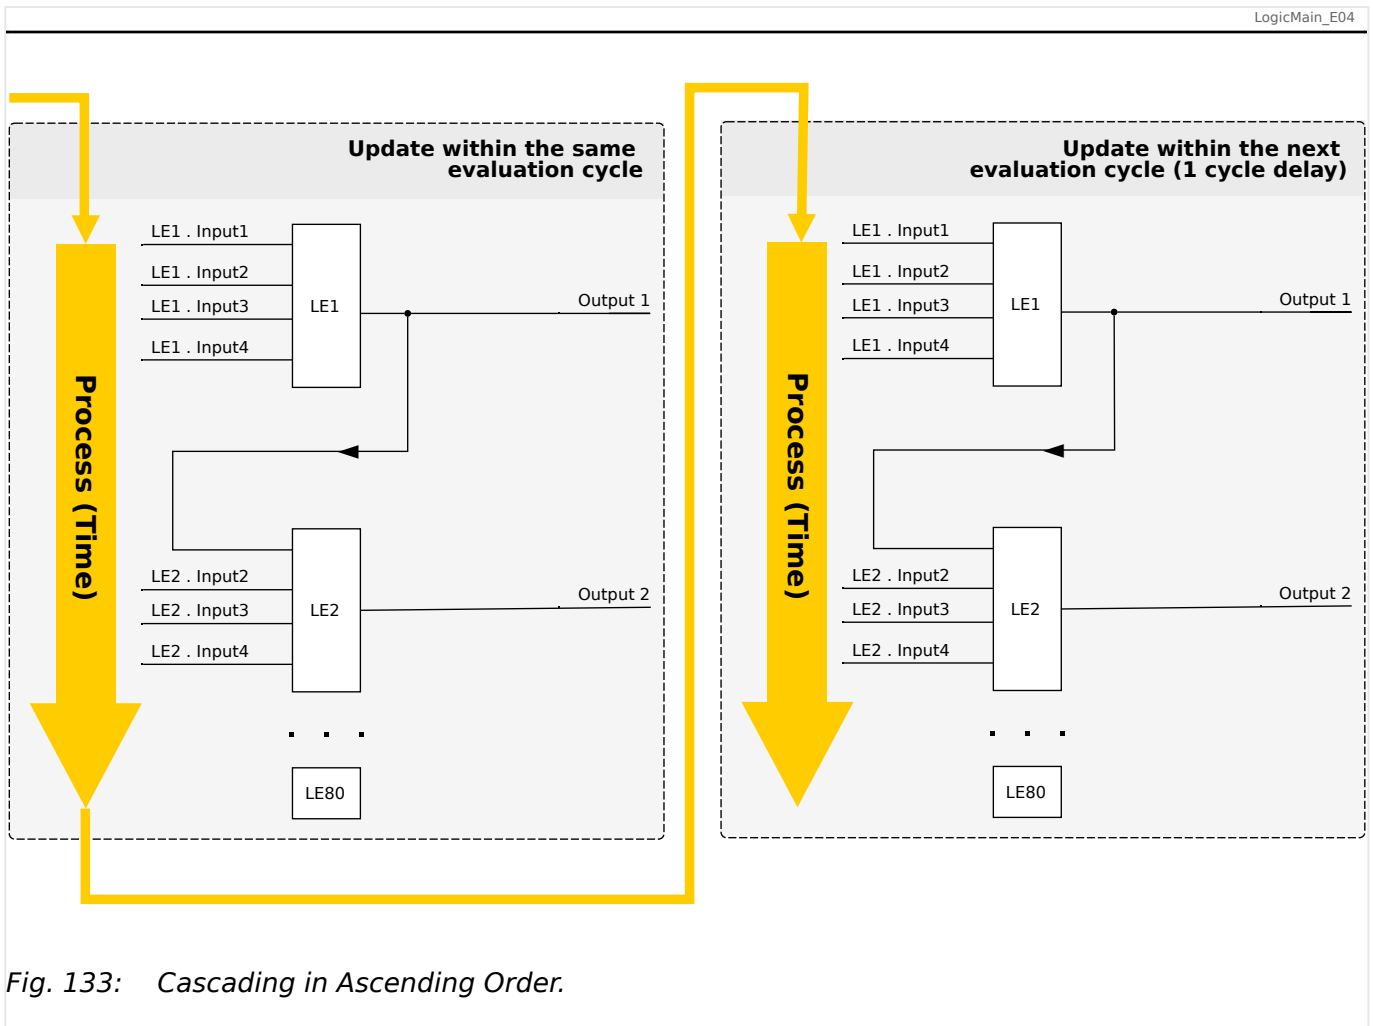
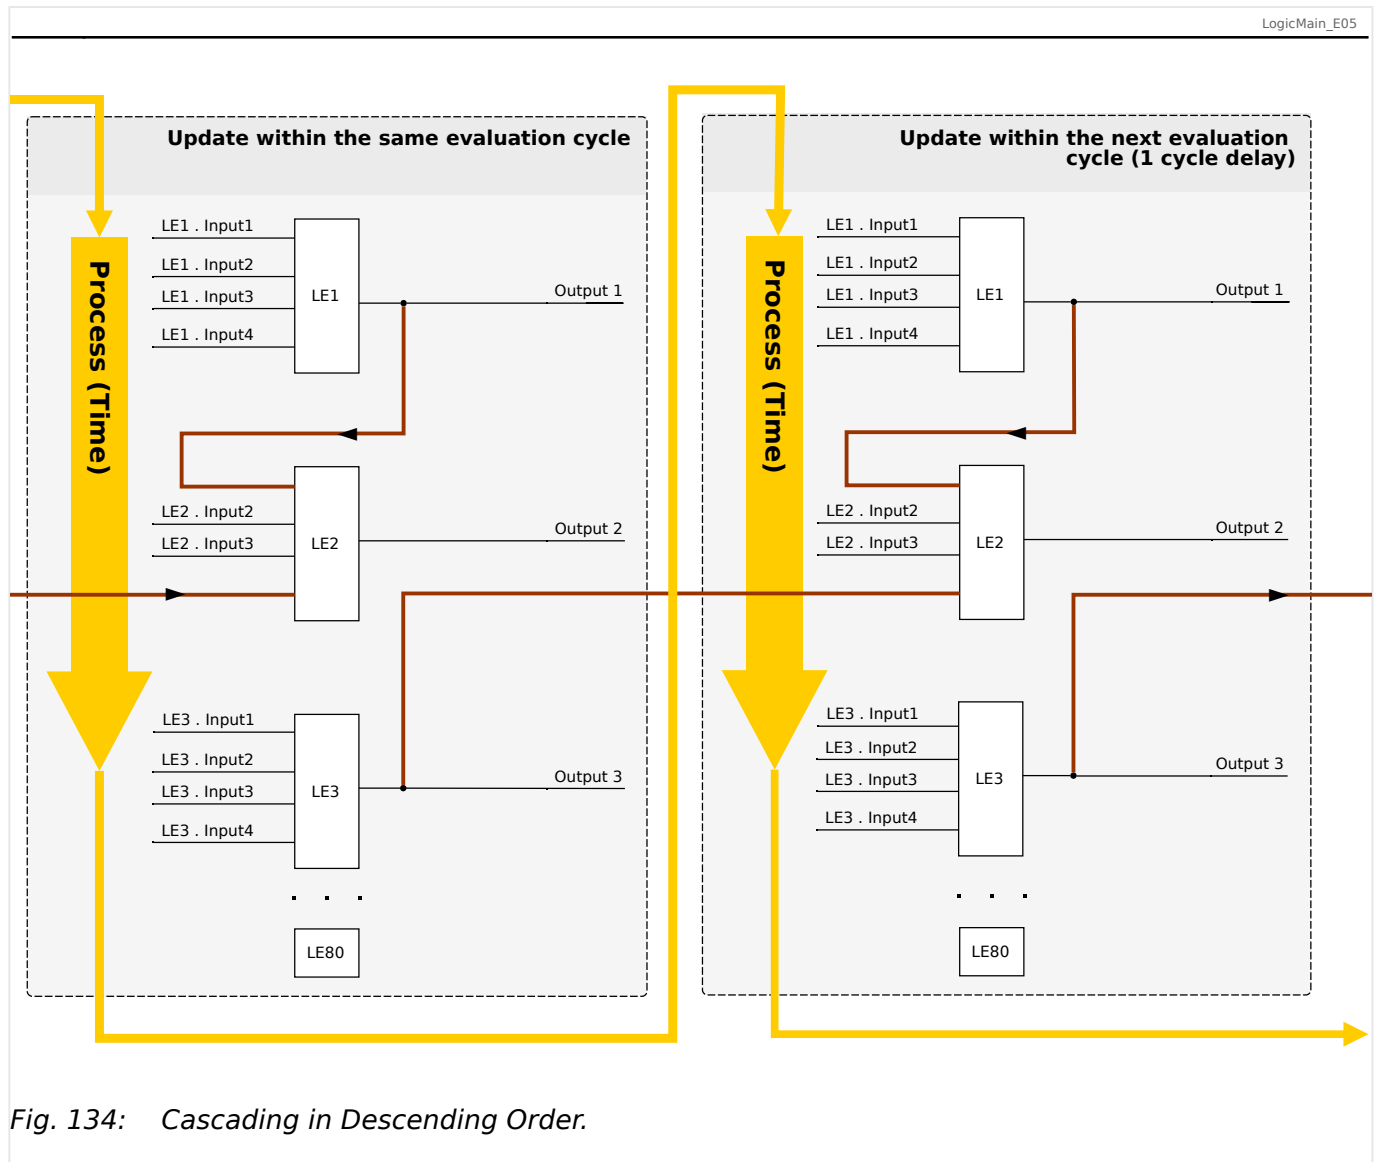

Fig. 133: Cascading in Ascending Order.
Fig. 134: Cascading in Descending Order.
- **Ascending** sequence means that some output is fed into the input of a logic equation with **higher** number. For instance, diagram  Fig. 133 below shows an example where the result of Logic Equation LE1 is used as an input of Logic Equation LE2.
- **Descending** sequence means that some output is fed into the input of a logic equation with **lower** number. For instance, diagram  Fig. 134 shows an example where the result of Logic Equation LE3 is used as an input of Logic Equation LE2.
Both ascending and descending sequences may be used and combined one with the other, with no immediate difference. However, due to the evaluation of all equations in ascending order the actual run-time values that are fed in at the input of an equation will have a different “age”, as is shown in  Fig. 133 and  Fig. 134 below.
In the example shown in  Fig. 134 above, "Logic Equation 2" uses the output states of two other equations, "Logic Equation 1" and "Logic Equation 3". The result of "Logic Equation 1" is used in ascending order and has therefore been evaluated within the same process cycle. The result of "Logic Equation 3" is used in descending order and has therefore been evaluated in the previous process cycle.